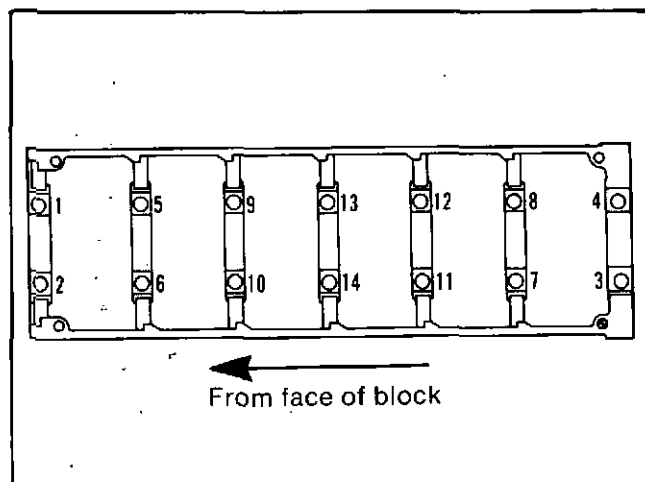

Fig. 14-6. Tightening Sequence For The Main Bearing Capscrews.
10. Tighten all of the capscrews for the main bearing caps. Use the sequence shown in Fig. 14-6 when you tighten the capscrews. Follow these instructions.